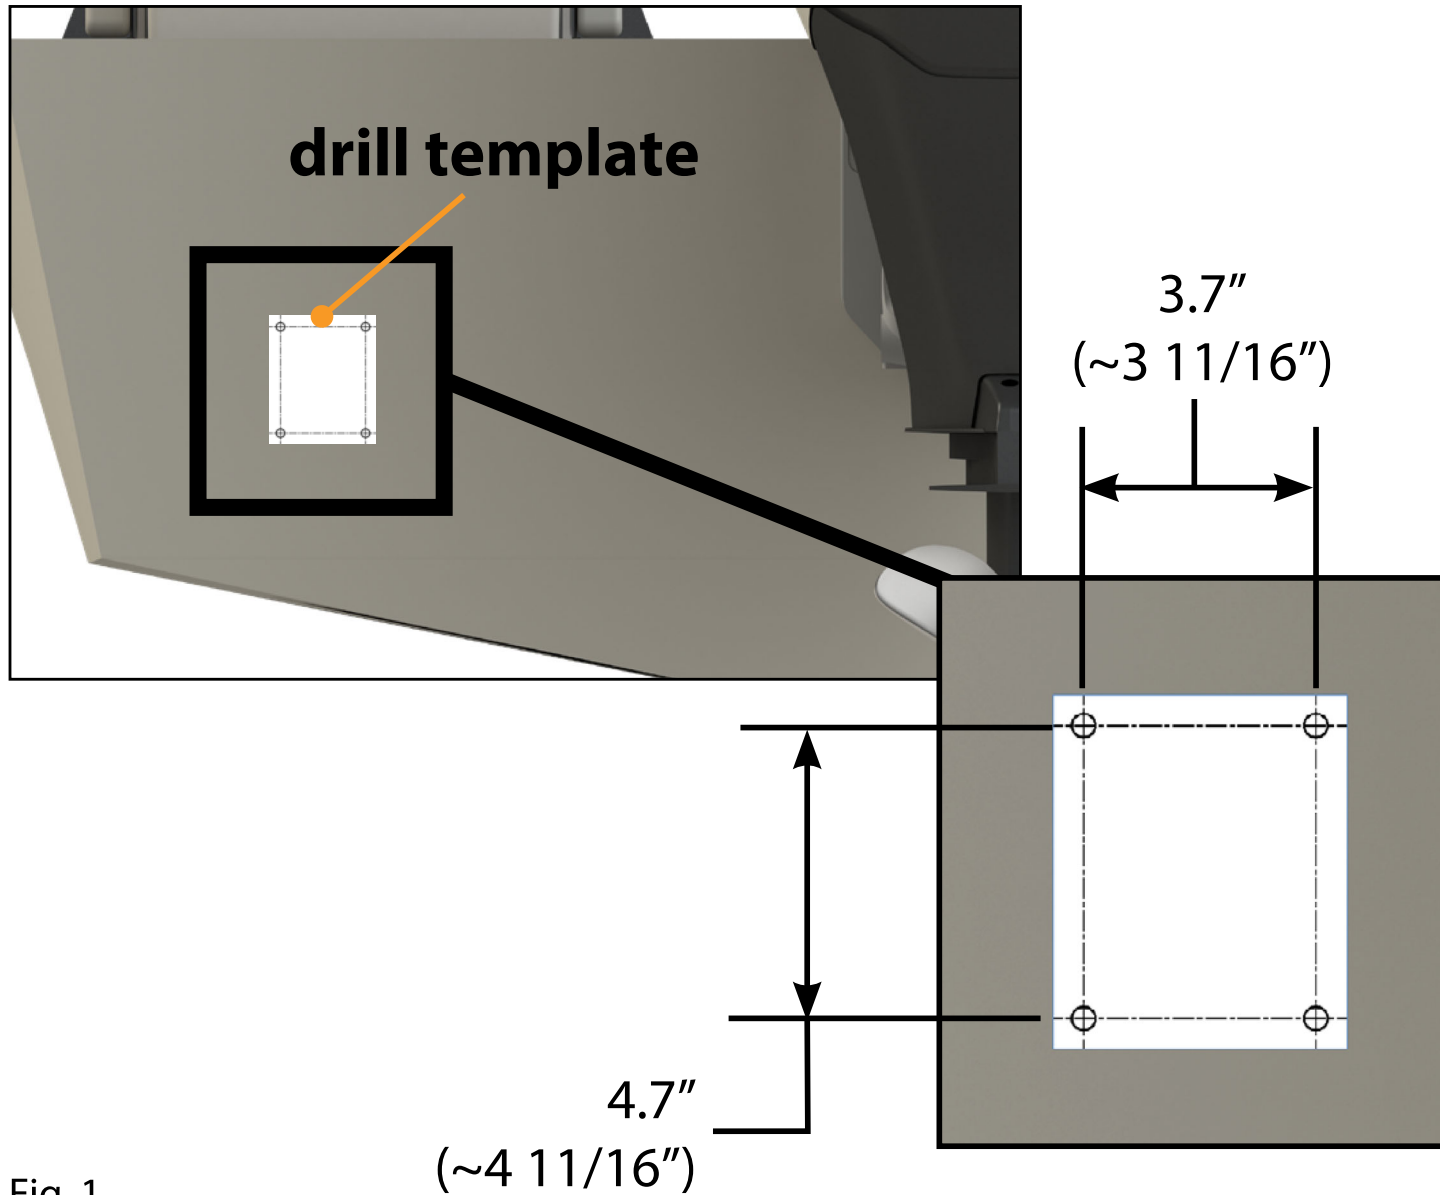
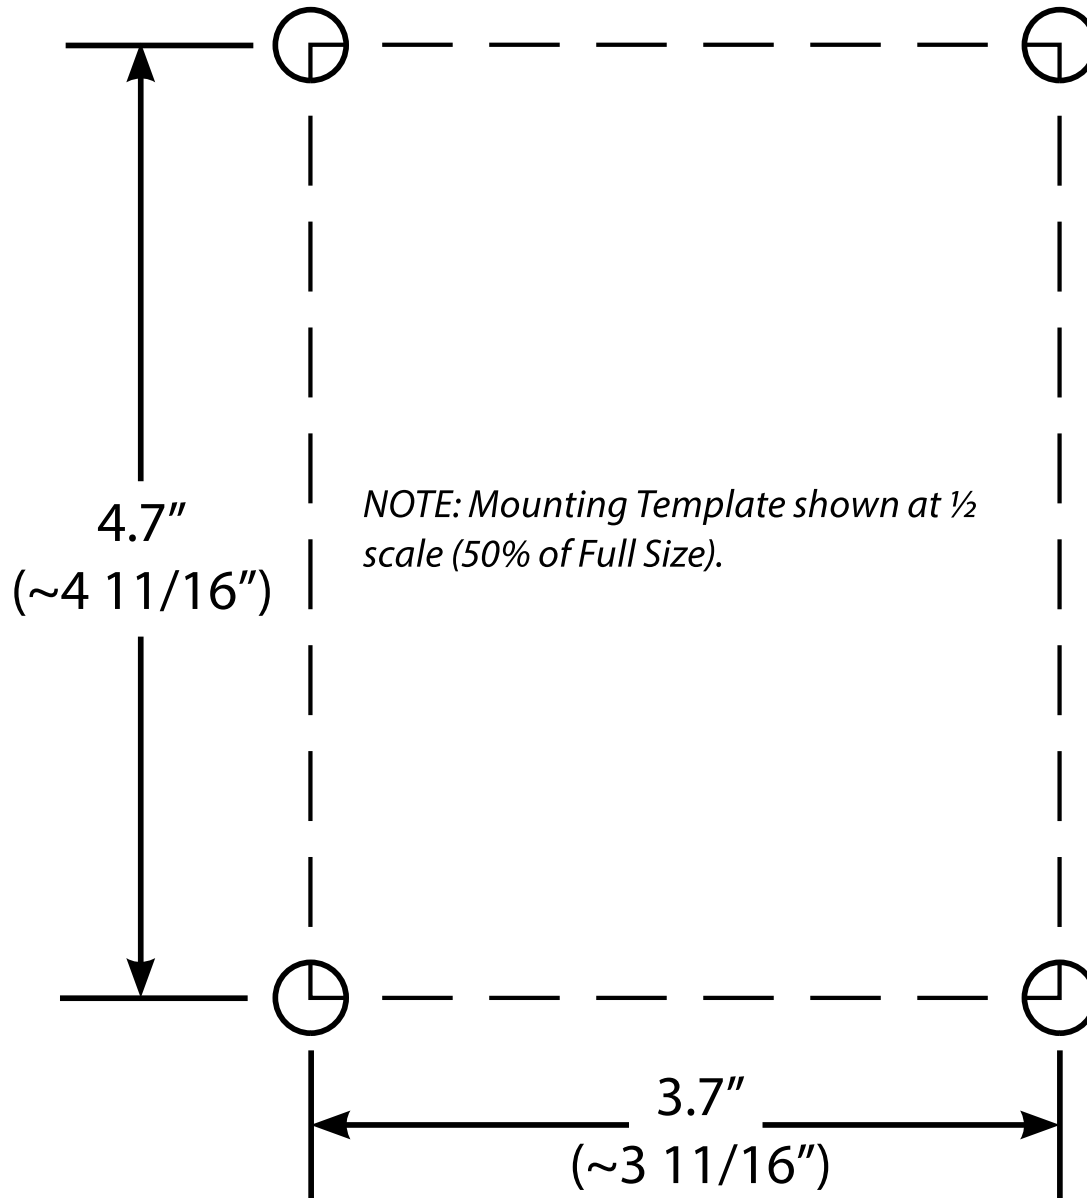

Fig. 1
Fig. 9
1. Orient mounting drill template (see figure 9) in desired location on transom (Fig. 1).